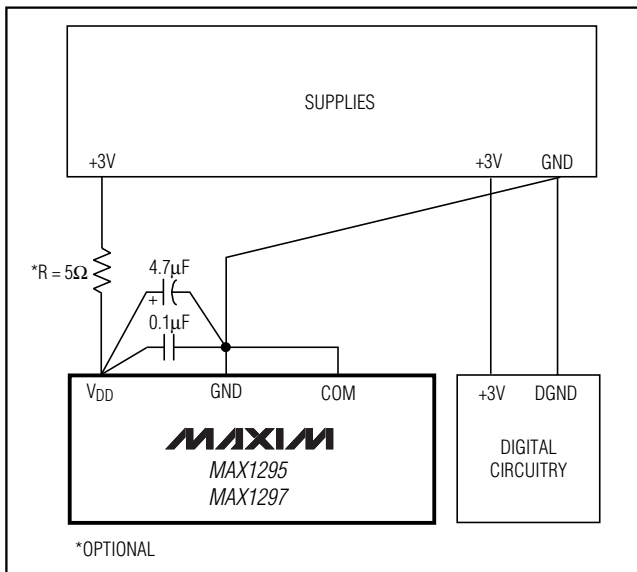

Figure 11. Power-Supply and Grounding Connections
For best performance, use printed circuit (PC) boards. Wire-wrap configurations are not recommended since the layout should ensure proper separation of analog and digital traces. Do not run analog and digital lines parallel to each other, and don't lay out digital signal paths underneath the ADC package. Use separate analog and digital PC board ground sections with only one star point (Figure 11) connecting the two ground systems (analog and digital). For lowest noise operation, ensure the ground return to the star ground's power supply is low impedance and as short as possible. Route digital signals far away from sensitive analog and reference inputs.